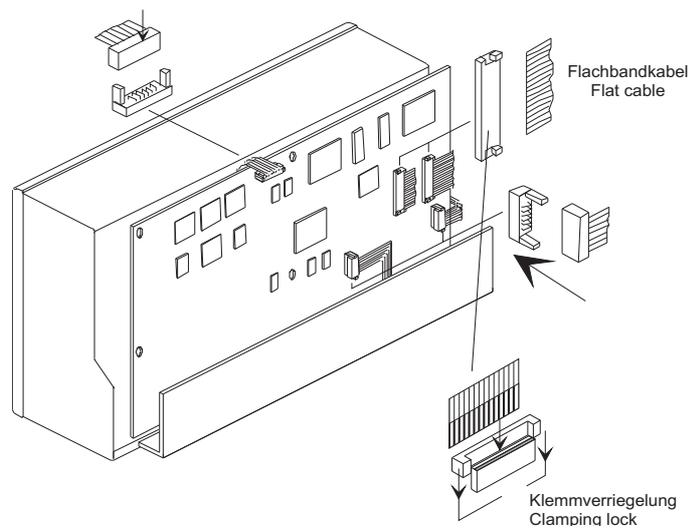

Fig. E 8-9: Connecting main pcb
13. Place main pcb and connector panel carefully inside the frame. Adjust position of pcb and flat cables and reconnect flat cables (Fig. E 8-9).